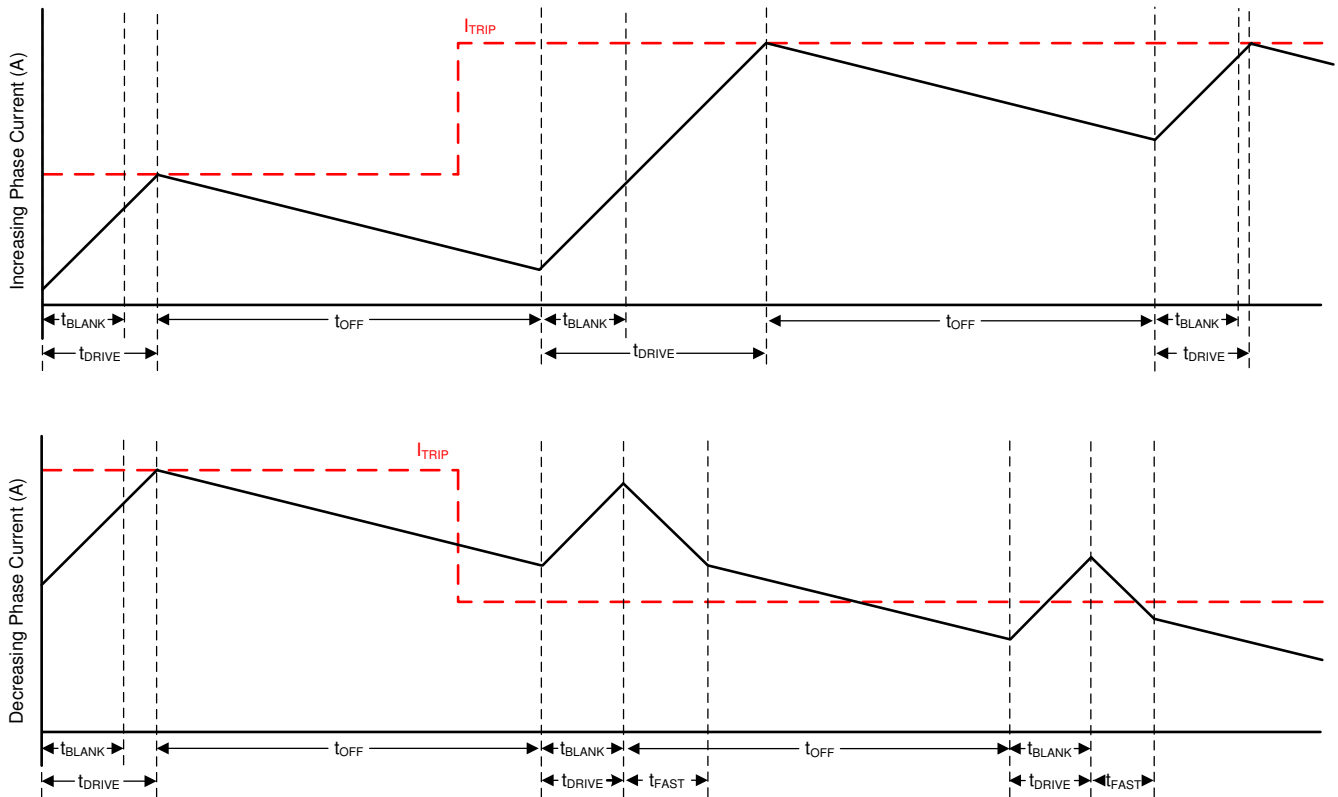

**Figure 7-5. Decay Modes**
During PWM current chopping, the H-bridge is enabled to drive through the motor winding until the chopping current threshold is reached. This is shown in Figure 7-5, Item 1.
- In fast decay mode, as soon as the PWM chopping current level is reached, the H-bridge reverses state by switching on the opposite arm MOSFETs to allow the winding current to flow in the opposite direction. As the winding current approaches zero, the H-bridge is disabled to prevent further reverse current flow. Fast decay mode is shown in Figure 7-5, item 3.
- In slow decay mode, the winding current is re-circulated by enabling both low-side MOSFETs in the H-bridge. This is shown in Figure 7-5, Item 2.